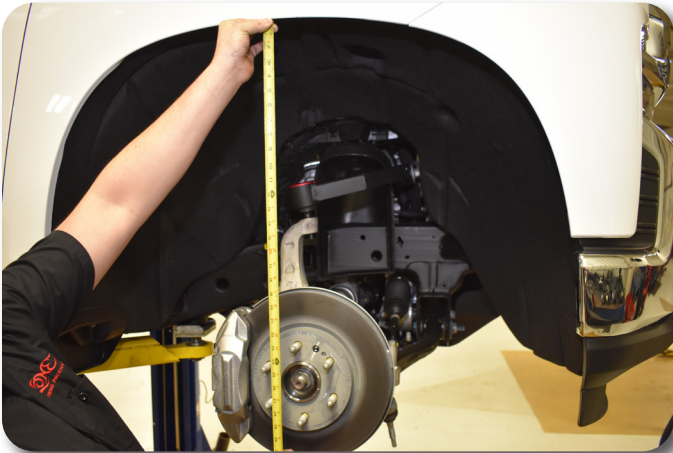

Figure 39
59. Using a jack, set the ride height from the fender lip to the center of the hub at 28-1/4" (6" or 4" Trail BOSS/ AT4 Kits). Using a torque wrench on the inside of the strut bucket and a wrench on the out side bushing to prevent the nut / bushing from moving, tighten the control arm hardware to 89 ft-lbs with the first pass and a final pass of 45-60 degrees **Figure 39**. This will ensure the rubber bushings are tightened to the right position and not put preload in the rubber bushings.